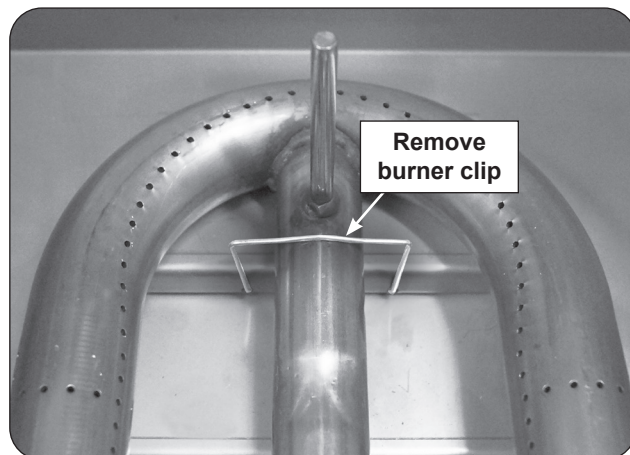

Fig. 39-2 Main burner removal
2. Locate the burner clip (located over the rear center tube of the burner) and slightly pinch and remove the clip from the burner support. See Fig. 39-2.